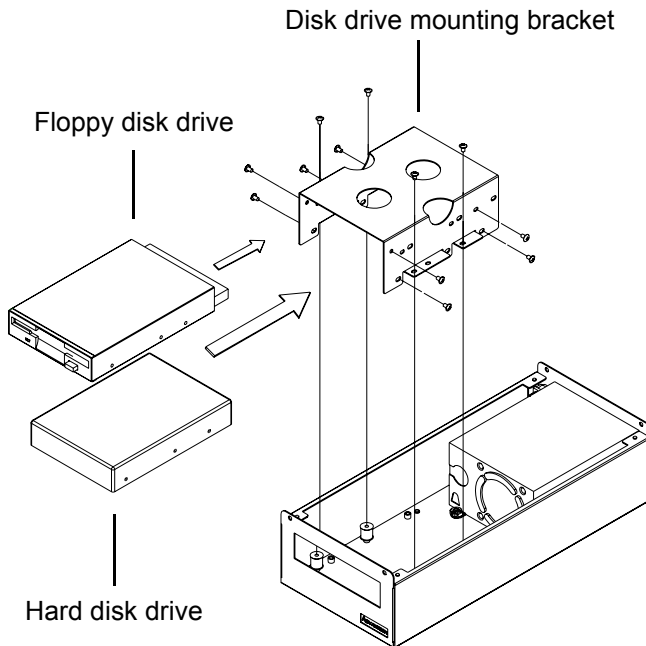

Figure 2.5: Installing disk drives into the housing
2. Insert the disk drive into its proper location in the disk drive mounting bracket, and then fix it in place with the supplied screws (see Figure 2.5).